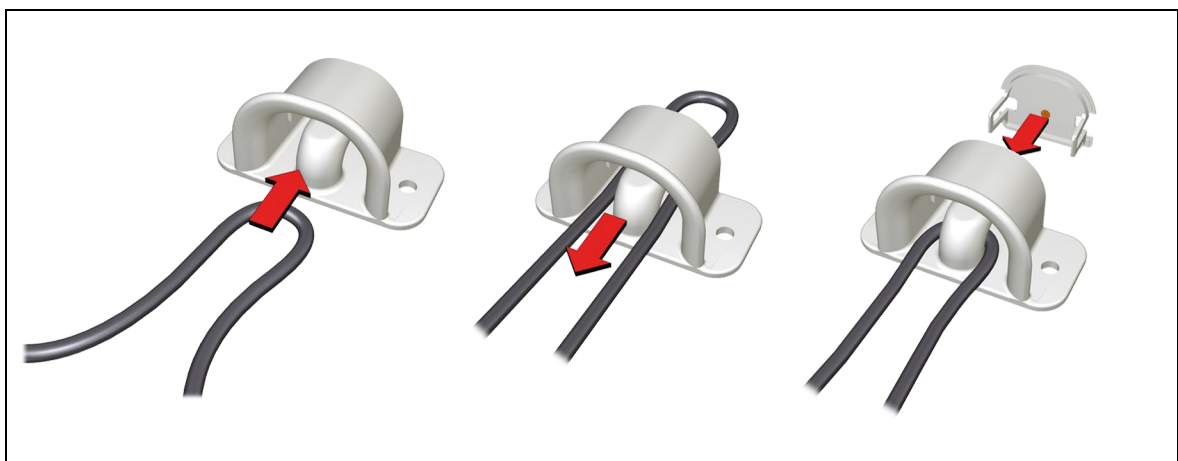

Figure 10 Routing the connecting cable through the mounted cable grip
The method for routing the connecting cable through the cable grip of the MCL III control unit is shown in Figure 10.
- 1 Take a loop of the connecting cable and guide it through the strain relief cable grip, as shown in Figure 10.